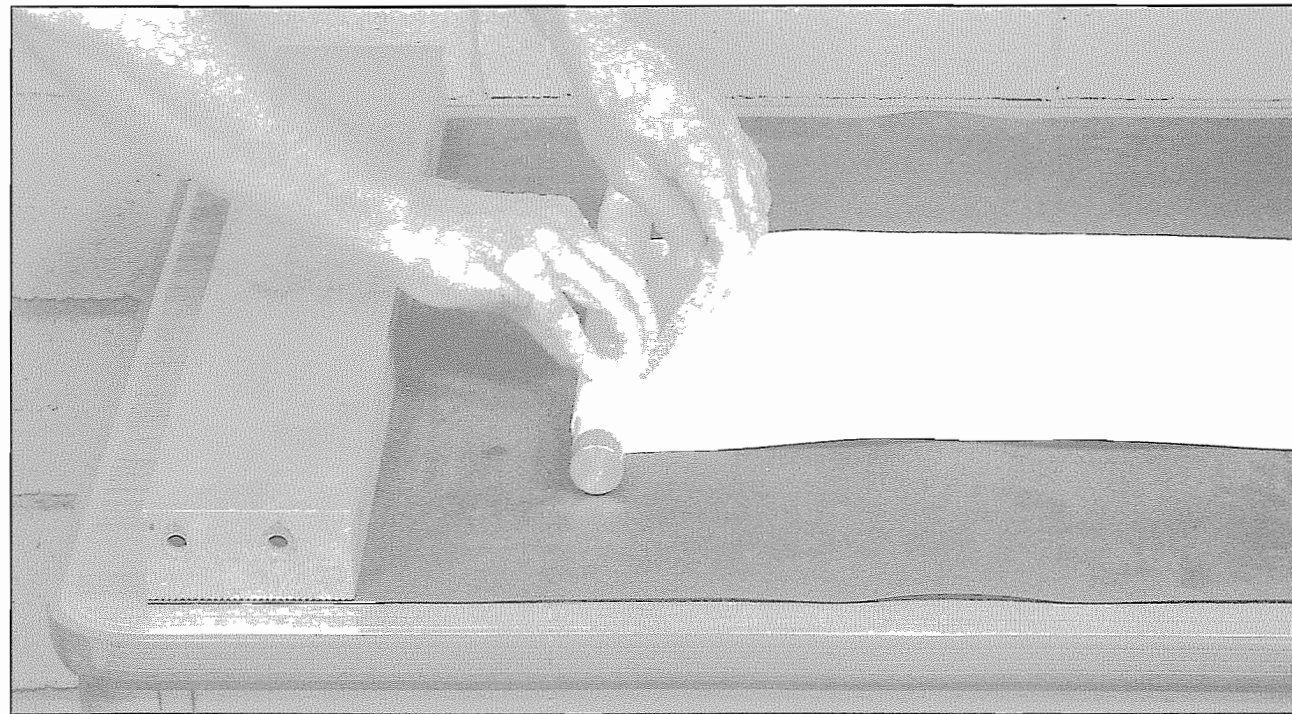

Figure 8-27. The first 18" of paper are dampened.
8. Holding the bar firmly in place with one hand, soak the sponge in the **ALCOHOL SOLUTION**, and with your free hand, squeeze it about 3/4 dry. Dampen about 12" of the paper in front of the bar, and squeeze the sponge as far under the bar as possible (Figure 8-27). The amount of moisture needed isn't much; just enough to make the glue glossy and sticky again. *Without delay*, roll the bar forward over the dampened paper, pressing down *firmly* as you go.